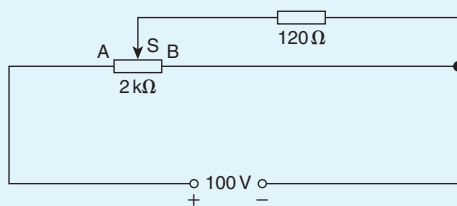

Figure 5.47
4. For the circuit shown in Fig. 5.47, the slider  $S$  is set at halfway. Calculate the voltage drop across the  $120\ \Omega$  load.